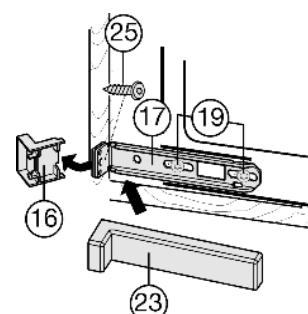

Fig. 24
- ▶ Loosen the screws *Fig. 24* (19) slightly.
- ▶ Secure the bottom mounting bracket *Fig. 24* (17) with a ø4x19 chipboard screw *Fig. 24* (25) to the unit wall.
- ▶ Break off the protruding end of the cover *Fig. 24* (16).
- ▶ Tighten the screws *Fig. 24* (19).
- ▶ Place the cover *Fig. 24* (23) onto the bottom mounting bracket *Fig. 24* (17).